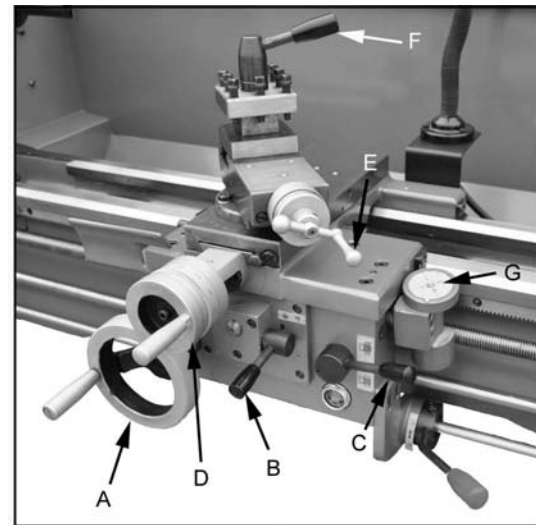

Figure 14
14. **Longitudinal Traverse Hand Wheel (A, Fig. 14)** – Rotate hand wheel clockwise to move the apron assembly toward the tailstock (right). Rotate the wheel counterclockwise to move the apron assembly toward the headstock (left).
15. **Feed Selector (B, Fig. 14)** – Push lever to the left and down to activate the crossfeed function. Pull lever to the right and up to activate the longitudinal function.
16. **Half Nut Engagement Lever (thread cutting) (C, Fig. 14)** – Move the lever down to engage. Move the lever up to disengage.
17. **Cross Traverse Handwheel (D, Fig. 14)** – Clockwise rotation moves the cross slide toward the rear of the machine.
18. **Compound Rest Traverse Handwheel (E, Fig. 14)** – Rotate clockwise or counterclockwise to move or position.
19. **Tool Post Clamping Lever (F, Fig. 14)** – Rotate counter-clockwise to loosen and clockwise to tighten. Rotate the tool post when the lever is unlocked.
20. **Threading Dial (G, Fig. 14)** – Engage by pushing into the leadscrew. Pull out to disengage. The dial indicator and chart will specify at which point a thread can be entered.